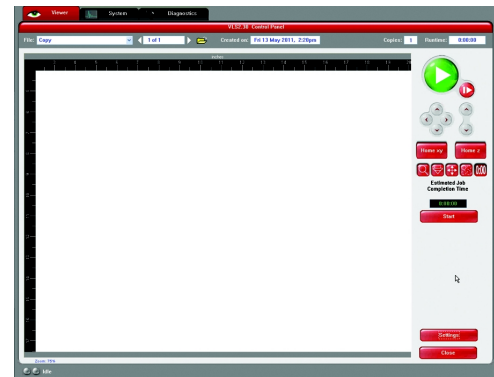

Figure 6
8. Launch the UCP by selecting the square red UCP icon on the taskbar and the current print job will appear in the Viewer Tab of the Universal Control Panel (Figure 6).
5. Press the green START button on the UCP to begin laser processing (Figure 6 on previous page).